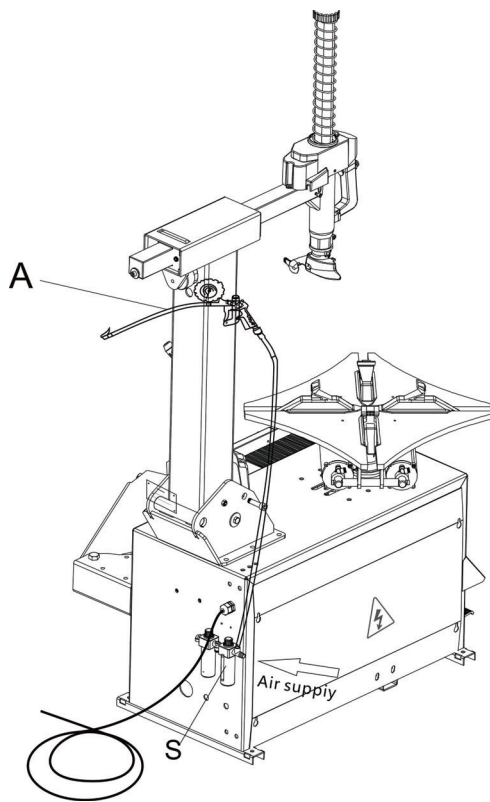

Fig.12
- Air connection: Connect the inflation gun A to the coupling located to the top of the air filter S (Fig.12).
- Connect the compressed air supply to the coupling located between the lubricator and the air filter S (as fig.12 , direction of arrow) .